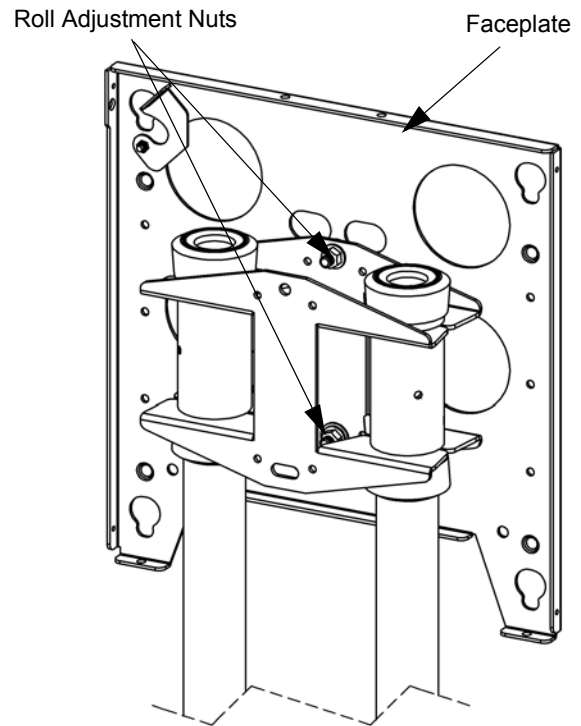

FIGURE 13. ROLL ADJUSTMENT NUTS
2. Locate roll adjustment nuts on back of face plate (see Figure 13).
5. Retighten the roll adjustment nuts (see Figure 13).